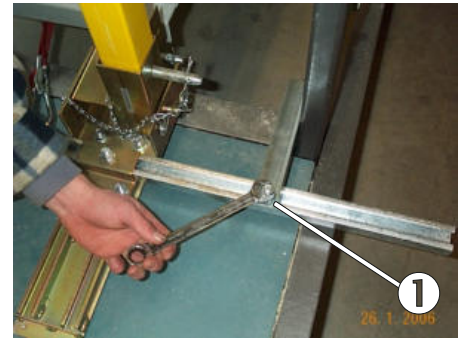

Fig. 42: L angle for bracing the platform in the doorway
The next step explains how to attach the L angle section along the lower and upper C profile rails using a bolt (fig. 42/pos. 1). HS 28/15 M10x30 mm T-head bolts are used for the upper rail, and HS 40/22 M10x30 bolts are used for the lower rail. The L angle that is intended for the lower cross beam has a curved projecting edge that must be placed into the C rail during assembly. When the hexagonal nut has been tightened, the projection should prevent distortion. The L angle must lie with one side piece on the C profile rail and the other on the wall/door soffit. Only then is the nut tightened.